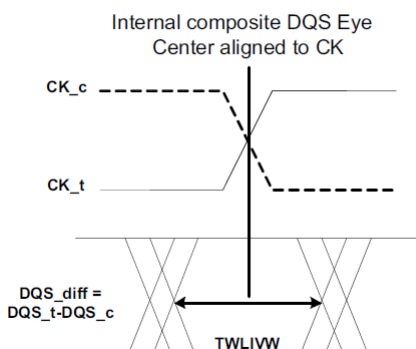

Figure 25. DQS_t/DQS_c to CK_t/CK_c timings at the DRAM pins referenced from the internal latch
- The DQS input mask for timing with respect to CK is shown in Figure 25. The "total" mask (tWLIVW) defines the time the input signal must not encroach in order for the DQS input to be successfully captured by CK with a BER of lower than tbd. The mask is a receiver property and it is not the valid data-eye.